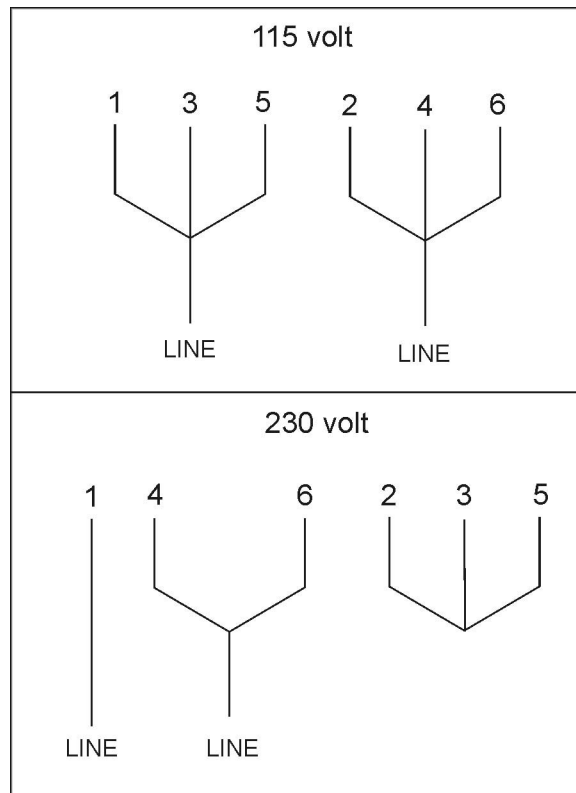

Figure 10
2. This dovetailer is supplied with six motor leads that are connected for 115 volt operation, as shown in Figure 10. Reconnect these six motor leads for 230 volt operation, also shown in Figure 10.